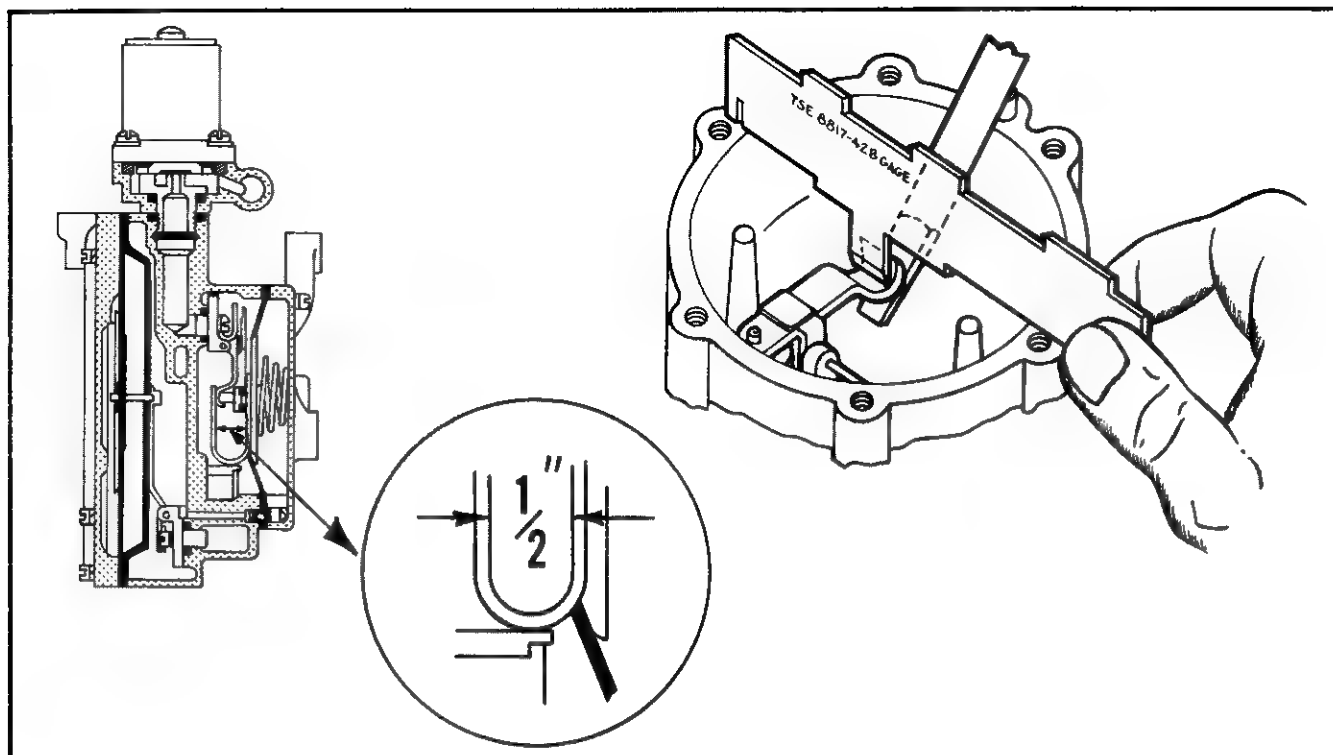

FIGURE 12-13 -- MODEL RCB REGULATOR - CROSS SECTIONAL VIEW
5. Carefully note the dimension shown on insert Figure 12-13. This should be 1/2" as indicated, from the high-pressure side of the body casting to the inside of the groove in valve lever when the valve is held firmly shut. This may be measured with Ensign Gauge TSE 8817-42B.